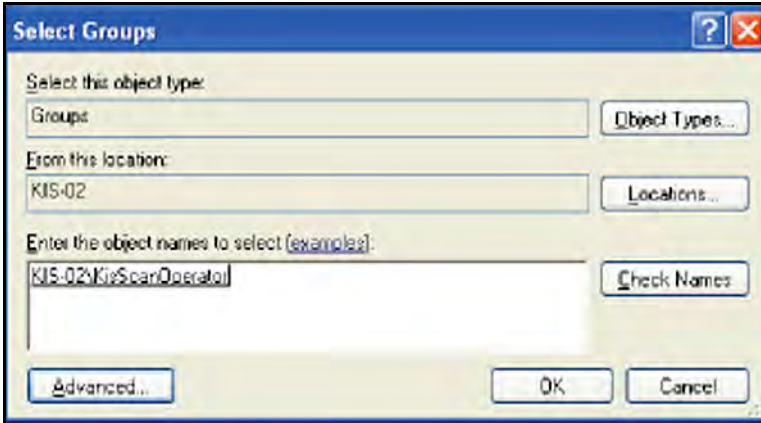

Figure 122: Select Groups Window with Highlighted Group
11. With the appropriate group highlighted in the *Select Groups* window (see *Figure 122* below), click OK. The user is now part of the selected group.